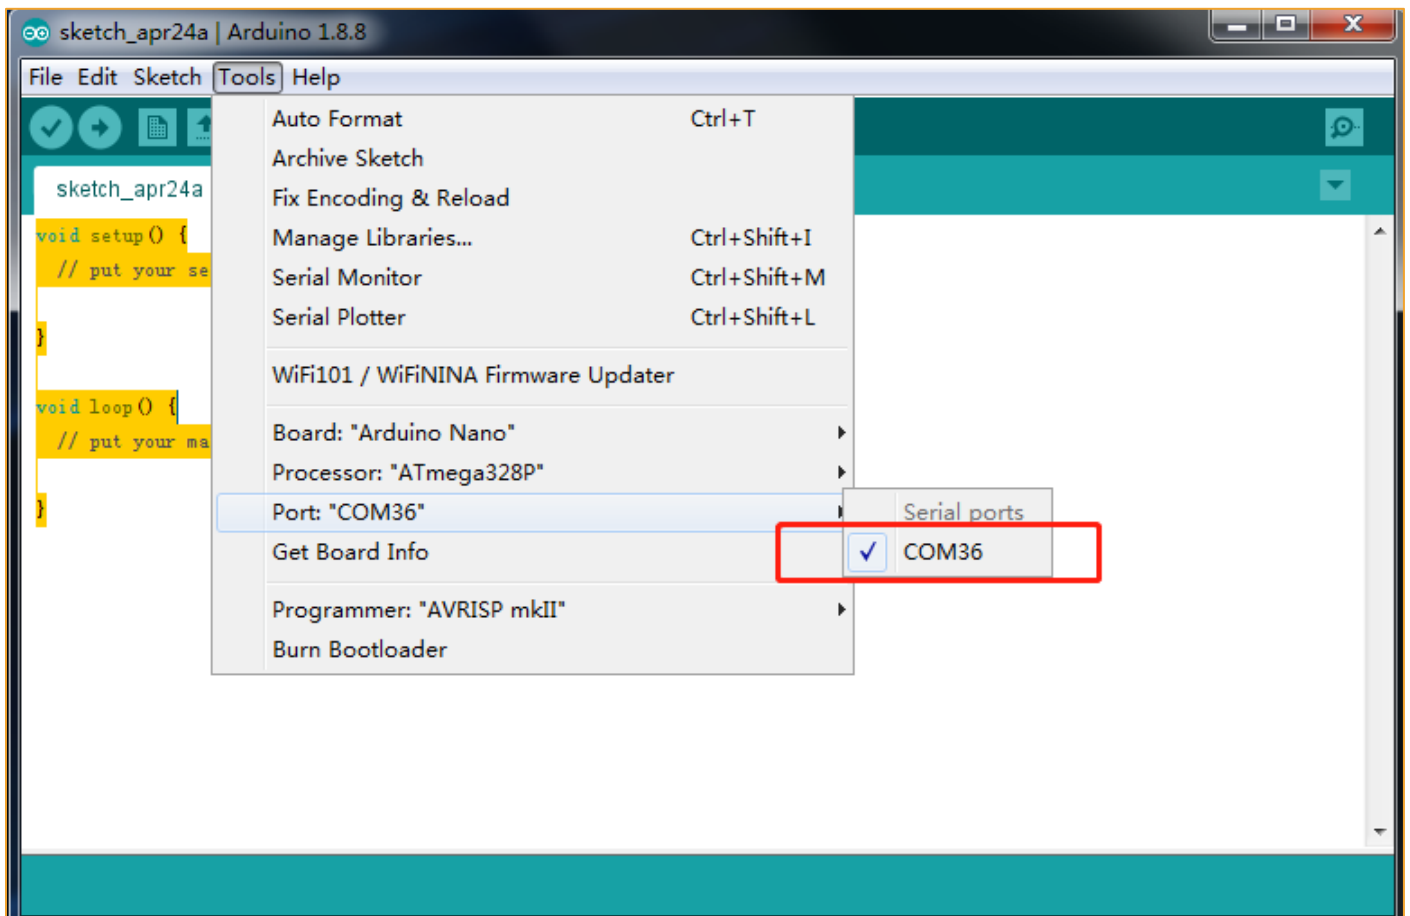

Figure 2.2.3
3) open the Arduino IDE software and click "tools -- port -- COM17(different computer port Numbers are different)", as shown in figure 2.2.3